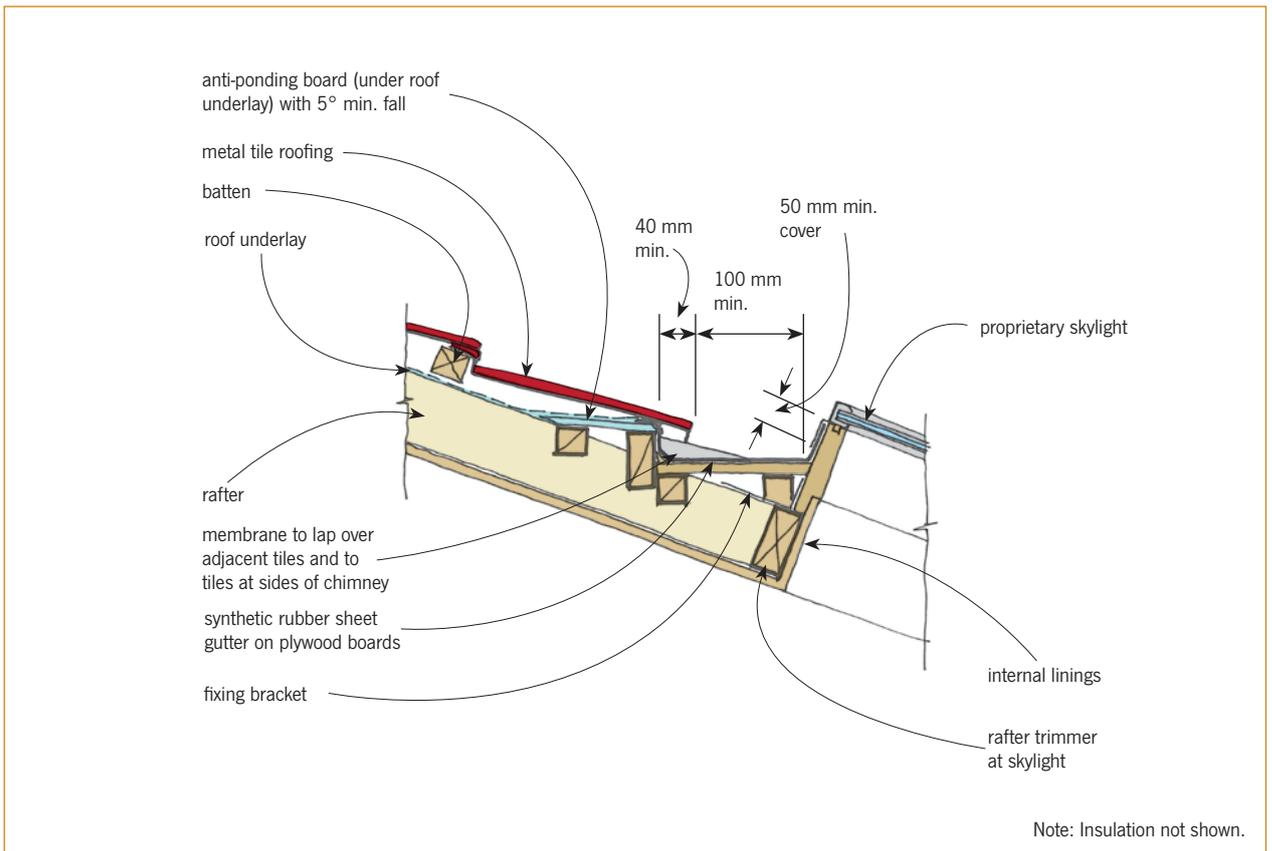

Figure 8. Skylight – note that additional side and bottom details are contained in BRANZ *Weather-tight Solutions Volume 5* Section 3.
14. Form square penetrations such as chimneys and rooflights with a membrane drainage gutter (Figure 8) or a custom-built metal flashing behind the penetration that drains out on to the lower tiles. Many proprietary roof lights/windows are supplied with flashing kits that must be used to maintain product warranties.